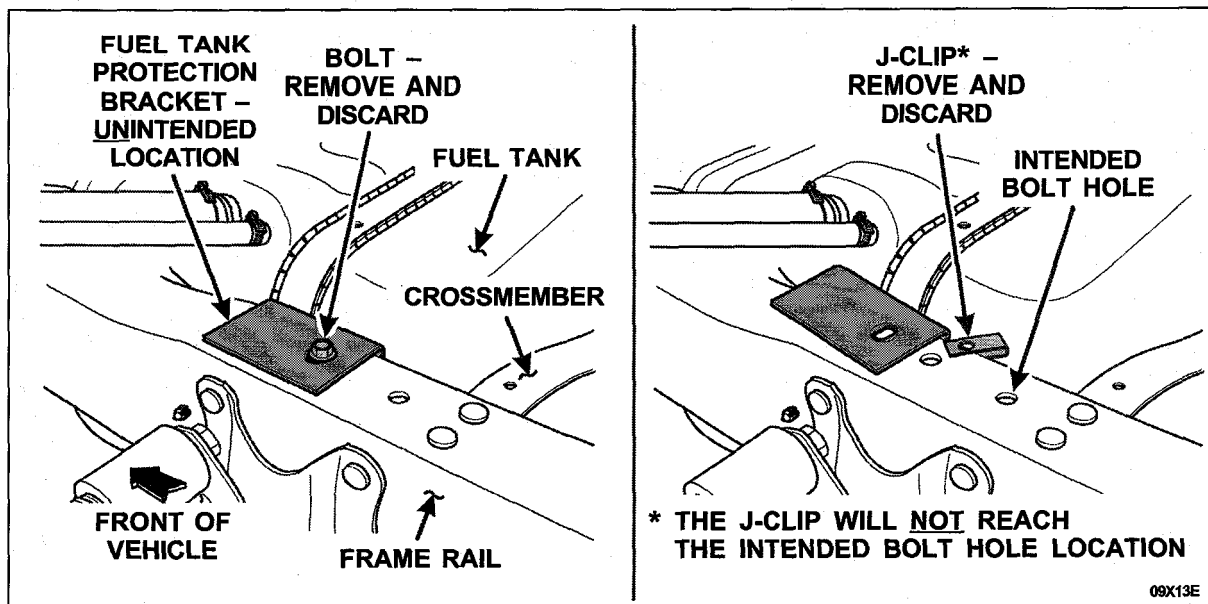

FIGURE 5
- remove and discard the fuel tank protection bracket bolt. See Figure 5.
- remove and discard the J-clip from the frame rail. The J-clip will **NOT** reach the intended bolt hole location. See Figure 5.